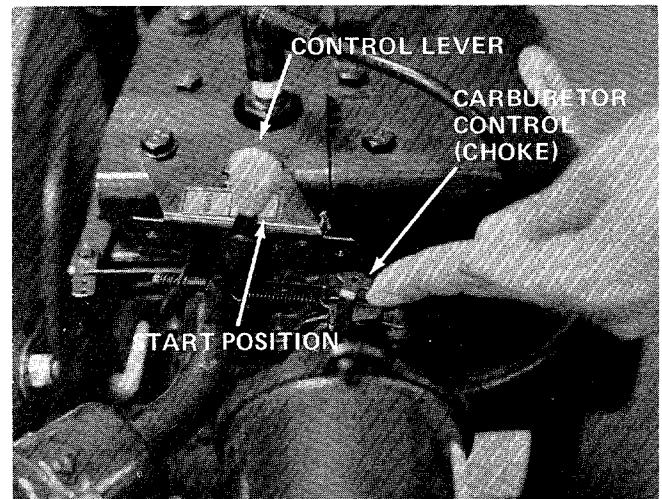

FIGURE 7
1. Place control lever (on engine) in "RUN" position. See figure 7.
2. For cold engine start, move carburetor control to "CHOKE" position. See figure 7.